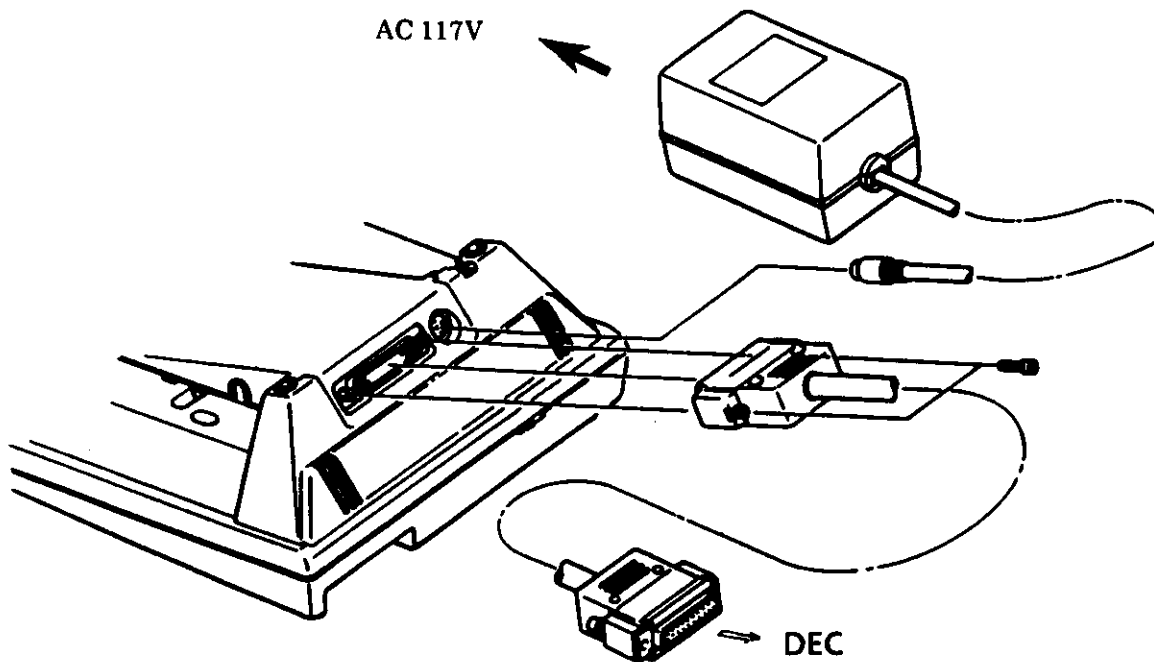

Fig. 260-6 Connection of DTE-DTA-E Unit
B.2 Connect one end of a locally provided RS-232C straight cable to the RS-232C connector of the DTA-E unit. Refer to Figure 260.6.
B.3 Secure the RS-232C connector with screws provided with the RS-232C cable as shown in Figure 260.6.